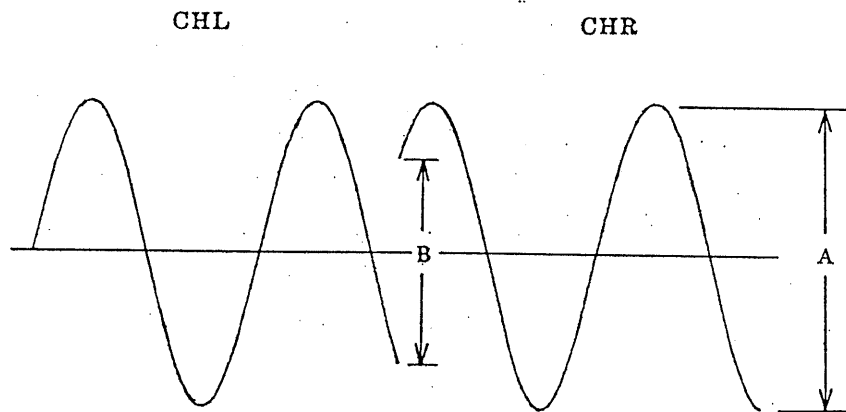
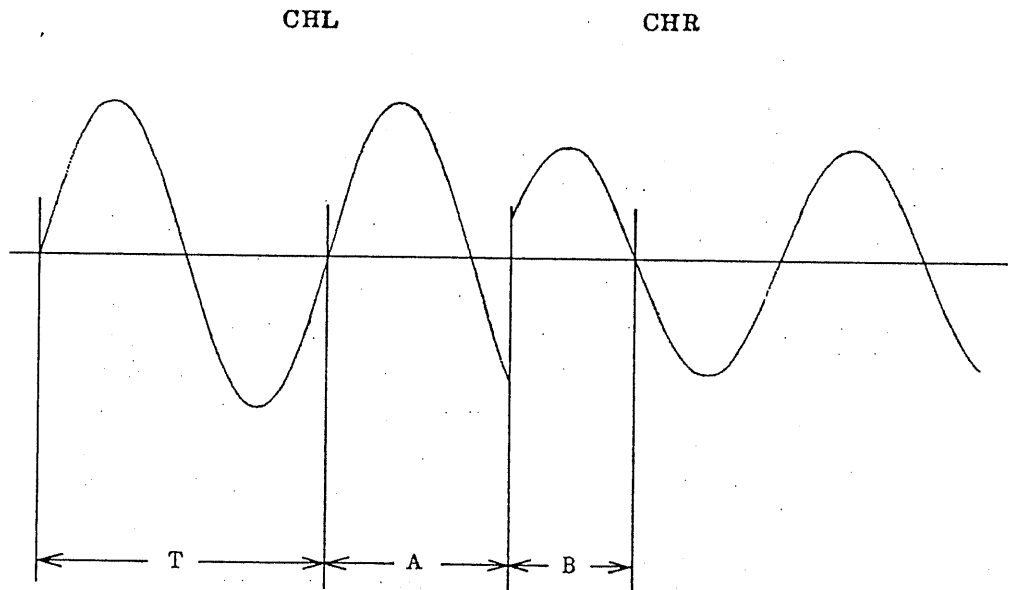

Fig. 4
Fig. 5
Set the TRIGGER MODE switch (24) in the CHL  state. Apply to the CHL VERT INPUT terminal (6) the signal to be used as reference and to the CHR VERT INPUT terminal (8) the signal to be measured. Adjust the displayed signals of CHL and CHR to the same amplitude with the VERT GAIN switches (12) and (14) and VAR controls (13) and (15). Align the vertical positions of the two signals with the POSI BAL control (17). Determine the vertical distances A (DIV) and B (DIV) between reference signal and measured signal as shown in Fig. 4. The phase difference  $\alpha$  between the two signals is calculated as follows:
Set the TRIGGER MODE switch (24) in the CHL state. Apply to the CHL VERT INPUT terminal (6) the signal to be used as reference and to the CHR VERT INPUT terminal (8) the signal to be measured. Determine the horizontal distances from the point where the CHL and CHR signals contact by falling on the same vertical line to the points where the signals crosses the horizontal base line as shown in Fig. 5. Denoting the distances by A (DIV) and B (DIV) and the signal period by T (DIV) as shown in Fig. 4, the phase difference  $\alpha$  is calculated as follows: